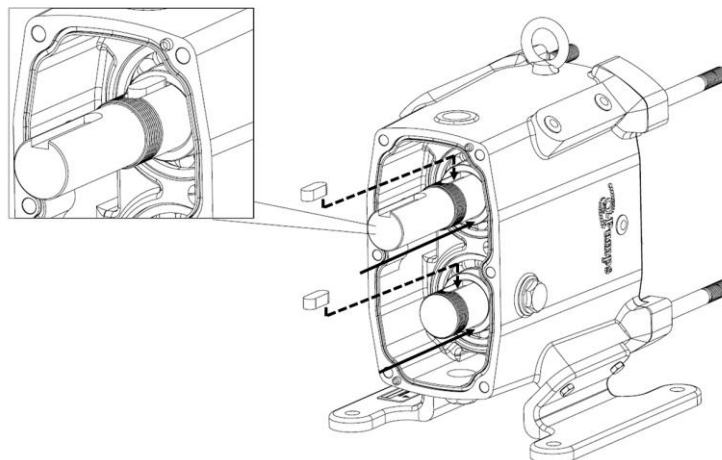

Figure 54: Gear Spacer and Key Installation
6) Align the shafts so that the gear key slots are pointing up. Slide the gear spacers on the shafts and insert the gear keys in the key slots (Figure 54).